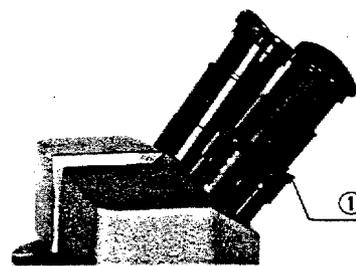

Fig. 4
b) Look at the image through the left eyepiece with your left eye, and rotate the diopter adjustment ring ① to focus on the specimen, without using the focusing knobs. (Fig. 4)